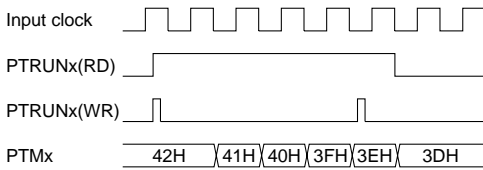

Fig. 5.11.9.1 Timing chart at RUN/STOP control
- (1) The programmable timer actually enters into RUN or STOP status at the falling edge of the input clock after writing to the PTRUNx register. Consequently, when "0" is written to PTRUNx, the timer stops after counting once more (+1). PTRUNx is read as "1" until the timer actually stops. Figure 5.11.9.1 shows the timing chart at the RUN/STOP control.